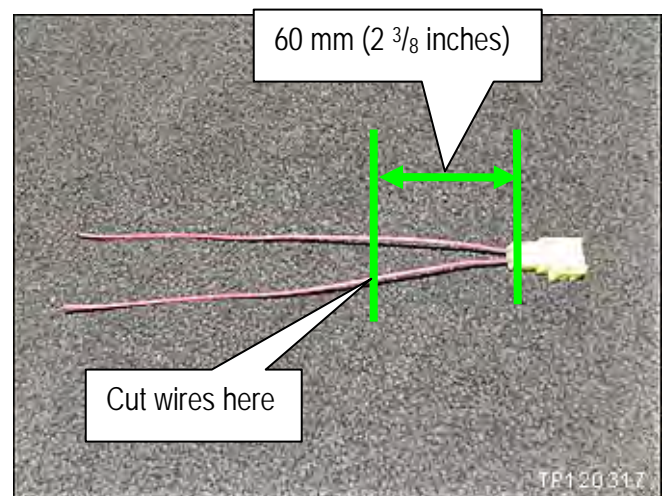

Figure CR14
11. Cut the wires on the new SAB connector 60 mm (2 3/8 inches) from the back side of the connector (see Figure CR14).